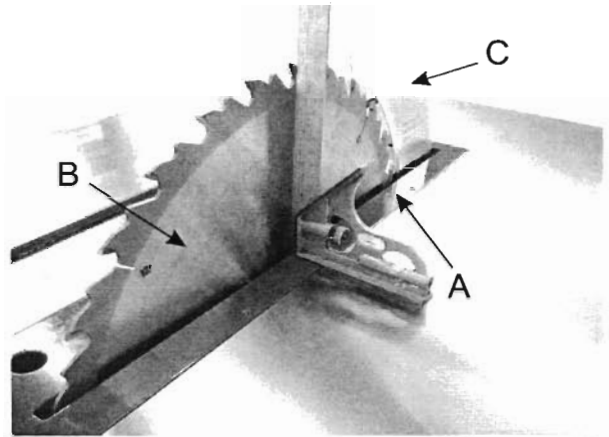

Figure 19
2. Place a straightedge (A, Fig.19 on the table so it rests against the blade (B, Fig. 19) and riving knife (C, Fig. 19). Rotate the blade so the top of the blade tooth touches the straightedge.